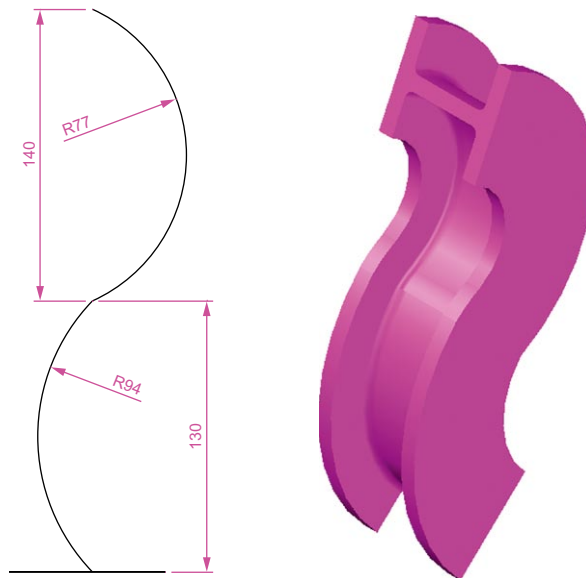

Fig. 12.38 Example – Sweep
Example – Sweep (Fig. 12.38)
2. Change to the **3D Navigation/Front** view, **Zoom** to **1** and construct a pline as shown in Fig. 12.38 as a path central to the outline.
The result is shown in Fig. 12.38.